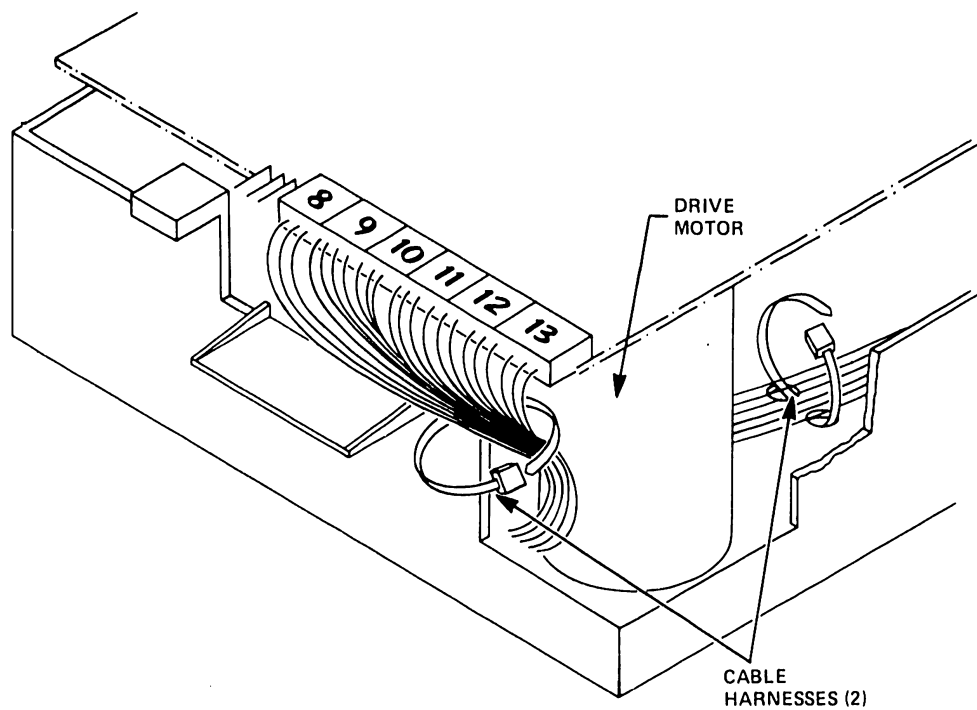

Figure 5-25
- 5.12.4 Cut the harness that attaches the Write Protect Switch Assembly cables and the Activity LED Assembly cables to the bottom of the chassis (see Figure 5-25).
- 5.12.5 Cut the harness that attaches the Write Protect Switch Assembly and the Activity LED Assembly cables to the bundle of wires that go to the PCBA (see Figure 5-25).
- 5.12.9 After smoothing out the Write Protect Switch Assembly cables and the Activity LED Assembly cables, harness them to the bottom of the chassis, routing the wires between the Drive Motor Assembly and the Track 00 Switch Assembly (see Figure 5-25).
- 5.12.10 Harness the bundle of wires at the back of the disk drive, including the new Write Protect Switch Assembly cables in the bundle (see Figure 5-25).